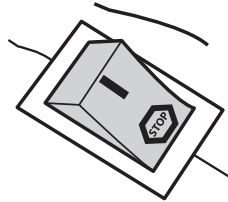

Fig. 15
2. Set the ignition switch (A19) to its off position "STOP". (See Fig. 15)